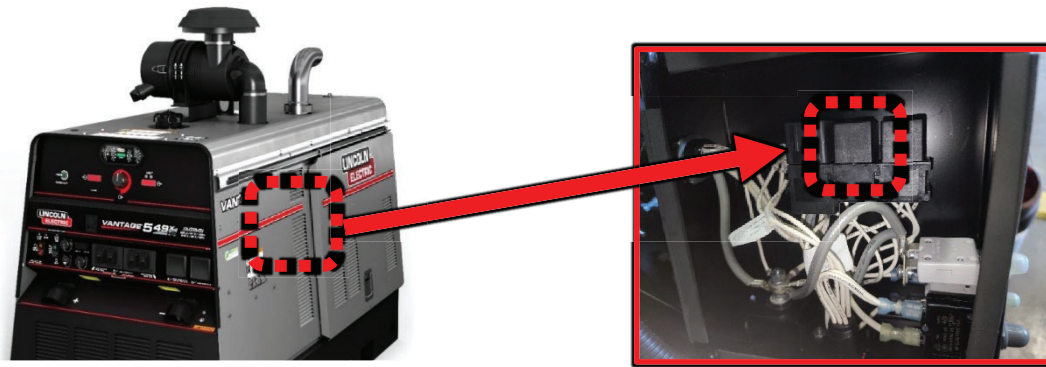

Figure F.3
B.1. Ensure the engine is NOT running, the On/Idle/Stop switch is set to AUTO, the Fuel Relay is removed from its socket and the Start/Glow button depressed as directed, refer to Figure F.3.